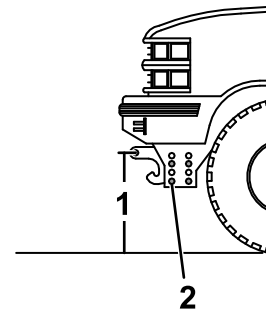

Figure 30
1. Measure the distance from the ground to the coupler spring-pin holes on the undercarriage pushbeam (Figure 30). The measurement should match the height listed for your plow in Specifications (page 22).
2. If the pushbeam is not at the correct height, remove the fasteners securing the pushbeam to the undercarriage (Figure 30).